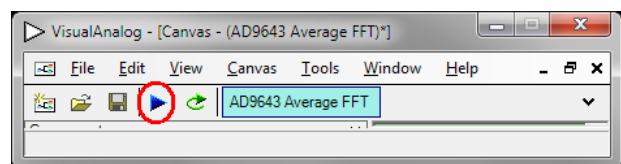

Figure 15. Run Button (Encircled in Red) in VisualAnalog Toolbar, Collapsed Display
- Click the **Run** button in the **VisualAnalog** toolbar (see Figure 15).